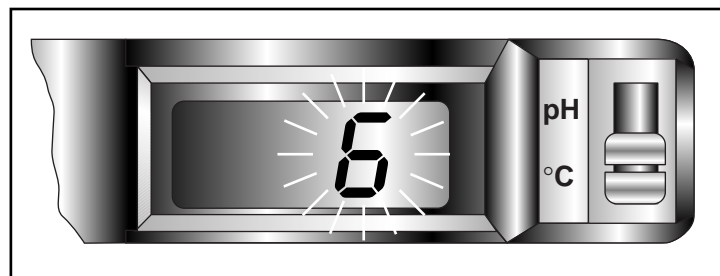

Figure 5-4. Blinking pH Code
8. A single character **pH calibration code "6"** should be blinking in the display. Refer to Figure 5-4. If it is not, press the "SET" button again.